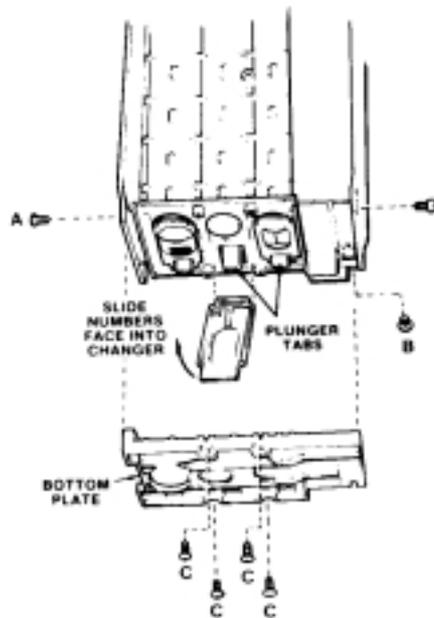

Figure 15: Clearing the Dispenser Slides
- 1) Detach the Bottom Plate by removing the seven Phillips head screws - one screw on each side (A), one recessed screw on the back (B), and four screws on the bottom of the changer (C) (see Figure 15).
- 3) Insert opposite screws (C of Figure 15) first to hold the slides in place.